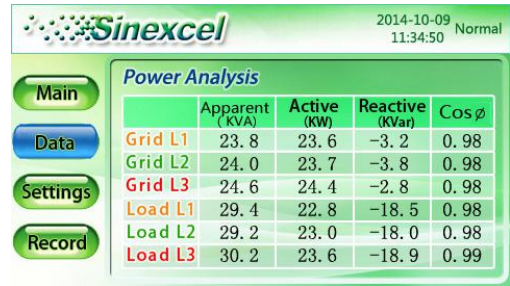

Figure 5-10 Power analysis
- ◆ Click “**Power Analysis**” in Figure 5-5 to check power data at grid side and load side, including apparent power, active power and reactive power, as shown in Figure 5-10;